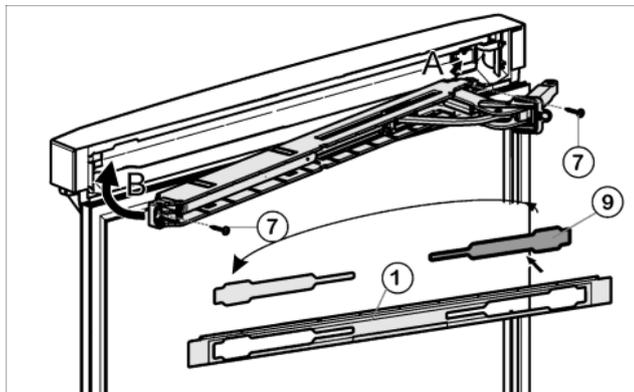

Fig. 16
- ▶ Remove the cover Fig. 16 (9) from the faceplate Fig. 16 (1) and re-insert it at the other side.
- ▶ Engage the upper soft stop unit with the joint on the hinge side (A) and swivel into place (B).
- ▶ Screw the soft stop unit firmly into place (2 mal Torx® 15) Fig. 16 (7).